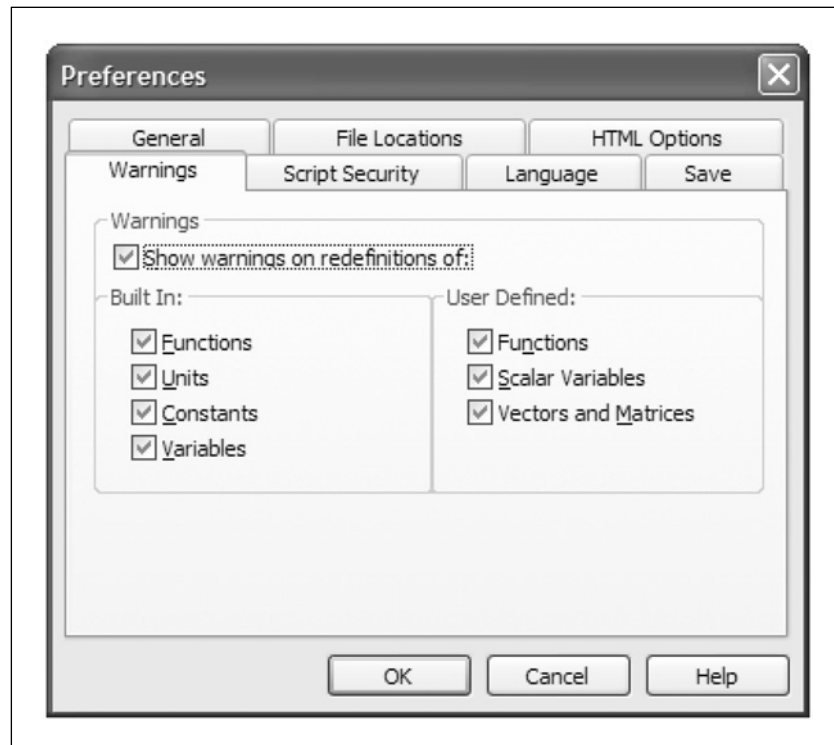

Figure 19.11 Turn on all redefinition warnings
1. Use Mathcad's redefinition warnings. To turn these on, click **Preferences** from the **Tools** menu, and then click on the Warnings tab. See Figure 19.11. Place a checkmark in all the boxes.